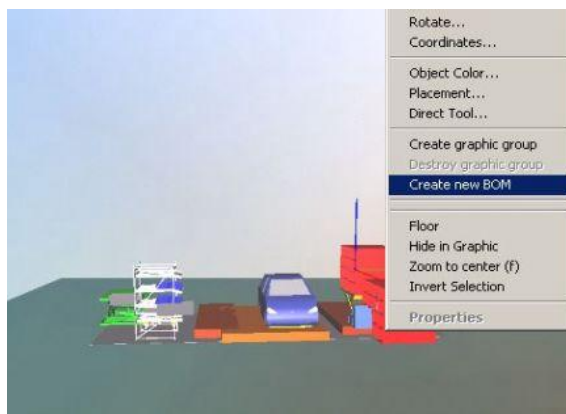
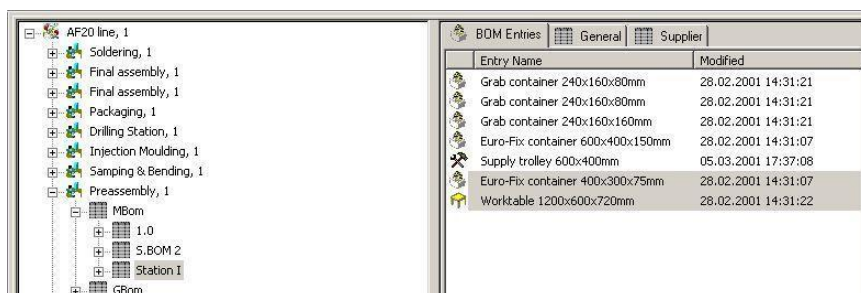
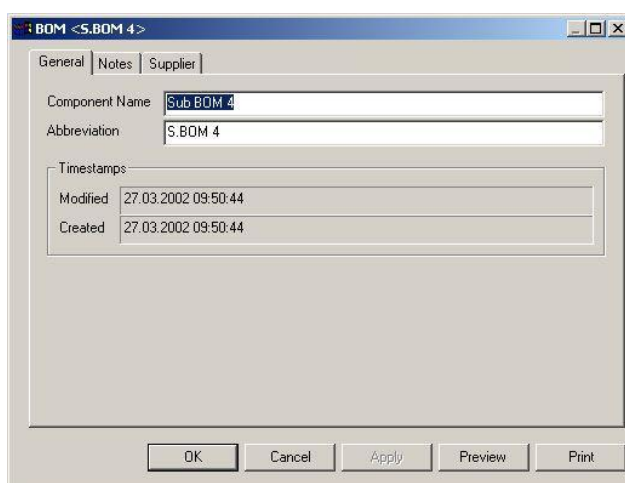

Figure 90: Creating New Bills of Materials: Two Selected Objects
Figure 91: Bill of Materials Structure Station 1 - Table
Figure 92: Properties Dialog: Create New BOM
In the case of selected objects, you can call this function in the Graphic menu or in the right mouse button context menu. Please refer to the Figure 90.
In the graphic above, there are two selected objects (*Please refer to the Figure 90*) for which a new bill of materials is to be created. Until now, these two objects have been assigned to the *bill of materials for station 1 table*. *Please refer to the Figure 91*.
- 1) Click *Create new BOM* (*Please refer to the Figure 90*) The Properties dialog will open. There you can specify the new bill of materials. *Please refer to the Figure 92*.